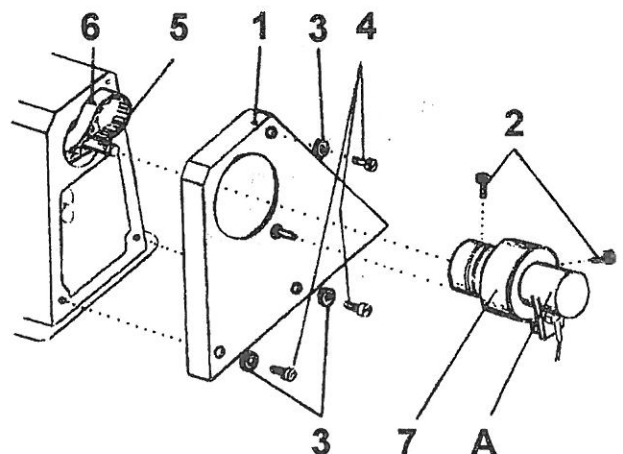

Fig. 3
### 5. V-belt and its tension (Fig. 3)
**15. To take off mount the drive belt (Fig. 3)**